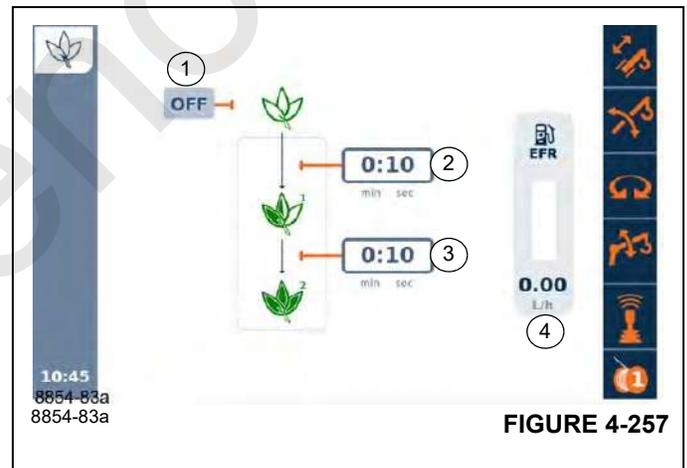
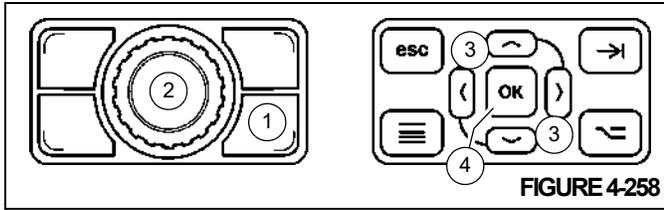

FIGURE 4-257
FIGURE 4-258
The ECO Mode Function Screen (Figure 4-257) allows the operator to set the ECO Mode function to ON or OFF (1), (Figure 4-257). The function screen also allows the operator to specify the lengths of time of crane function inactivity before the crane's engine speed is reduced from the working engine speed to the two idle speeds (2 and 3), (Figure 4-257).
The ON/OFF Icon (1), (Figure 4-257) is used to set the ECO Mode function to ON or OFF.
The Idle Speed 1 Time Delay Setting (2), (Figure 4-257) is used to specify the period of time the craning functions must be inactive (controllers in neutral position) before the engine speed is reduced from the operator specified working engine speed to the idle speed of 950 rpm.
The Idle Speed 2 Time Delay Setting (3), (Figure 4-257) is used to specify the period of time the craning functions must be inactive (controllers in neutral position) before the engine
**NOTE:** If the hydraulic oil cooling fan is operating, the crane will reduce the fan speed when the Time Delay Setting (3), (Figure 4-257) has been met. This reduces fuel consumption and does not affect cooling performance.
The Fuel Usage Rate graphic (4), (Figure 4-257) indicates fuel usage rate in the selected unit of measure.
- Engine speed will automatically decrease to the idle speed of 950 rpm after all craning functions have stopped (controllers in neutral position) and the time period that was specified in the Idle Speed 1 Time Delay Setting (2), (Figure 4-257) has past.
- Engine speed will automatically decrease to the idle speed of 800 rpm after all craning functions are disabled and the time period that was specified in the Idle Speed 2 Time Delay Setting (3), (Figure 4-257) has past.
1. Press the Screen Toggle Button (1), (Figure 4-258) at the Jog Dial to select the ODM screen control. Using the Jog Dial (2), (Figure 4-258), select one of the time delay number fields (box around number will turn orange, (Figure 4-257), then press the Jog Dial (2), (Figure 4-258) (number will turn white with orange background).
Using the Arrow Buttons (3), (Figure 4-258) on the Navigation Control Pad at the ODM, select one of the time delay number fields (box around number will turn orange, (Figure 4-257), then press the OK Button (4), (Figure 4-258) (number will turn white with orange background).